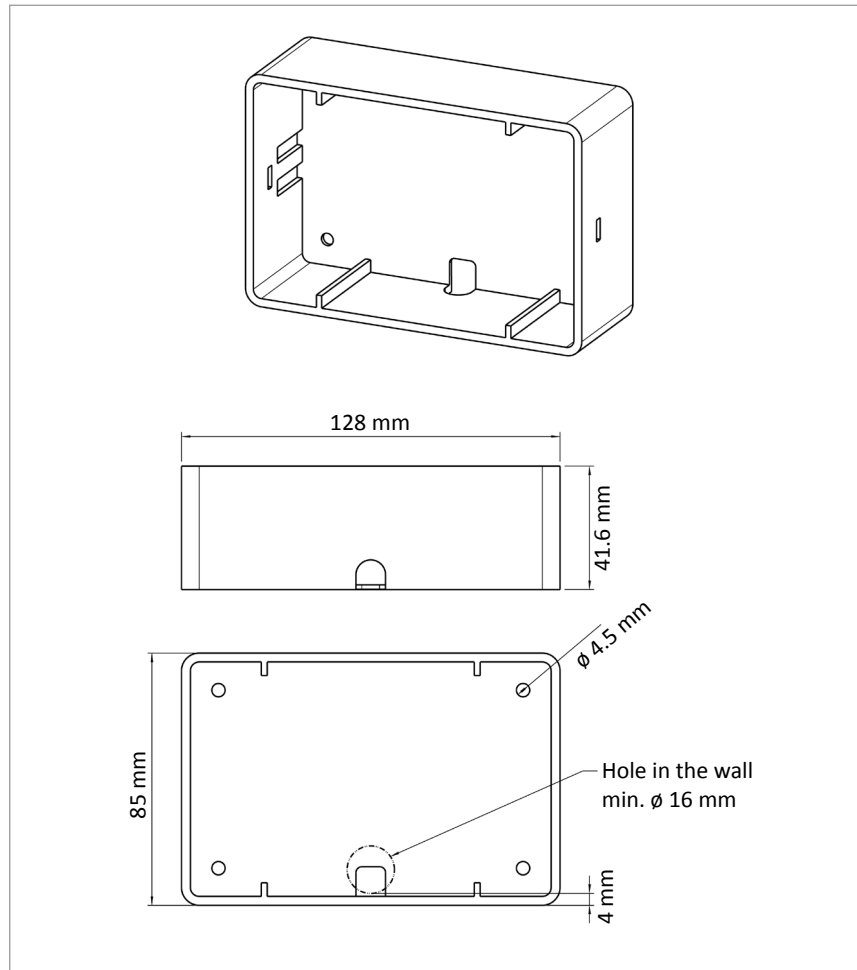

Fig. 8: Measurements of the wall-mounted housing
2. Bore hole ( $\varnothing$  16 mm) for cable routing according the dimensions in Fig. 8.